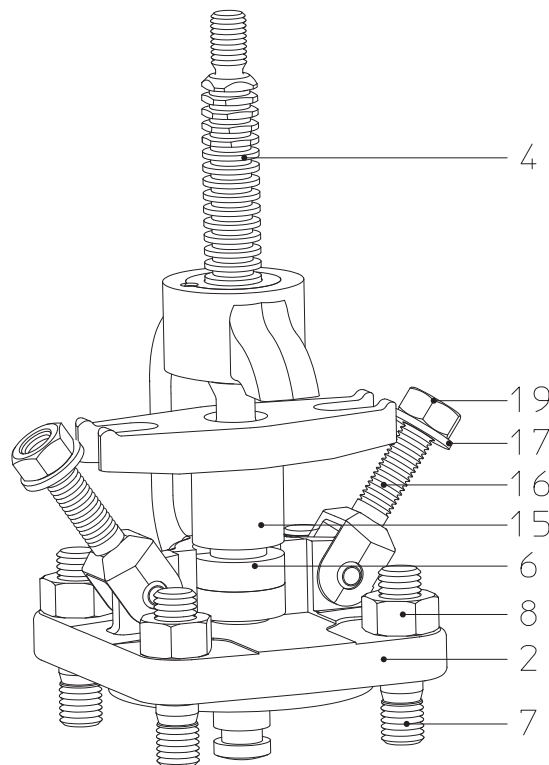

fig. 14: Pattern with hinged bolts
If necessary, renew packing in stuffing box seal (pos. 6). Observe warnings (fig. 14)!